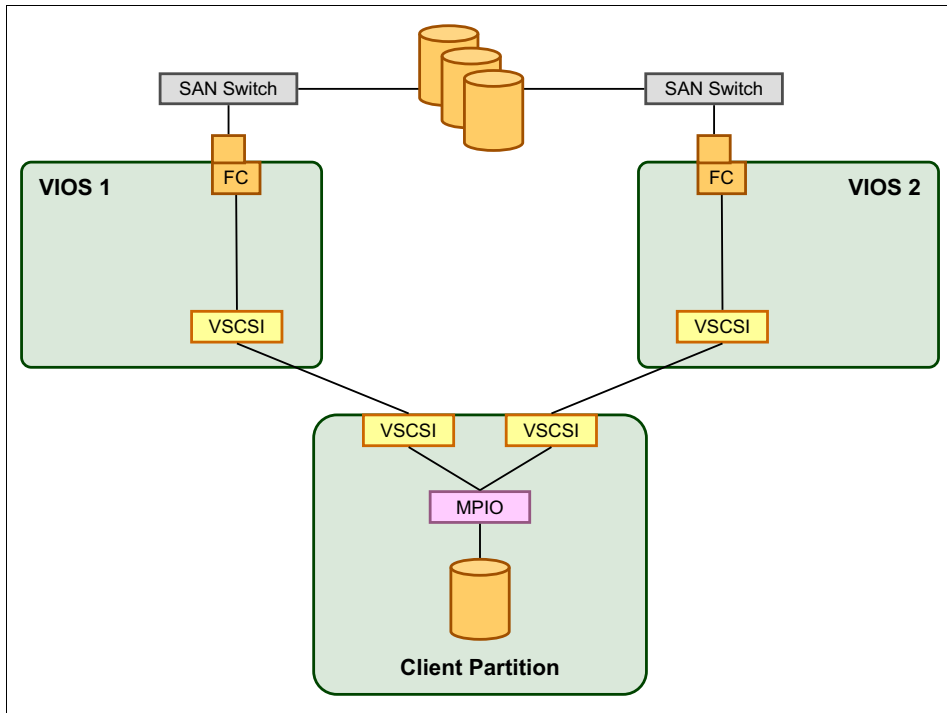

Figure 11-11 Virtual I/O client that is running MPIO
If you have an MPIO setup on your Virtual I/O Server client partitions similar to Figure 11-11 on page 385, run these commands before and after the first Virtual I/O Server update to verify the disk path status:
6. For an AIX MPIO environment, as shown in Figure 11-11 on page 385, run the **lspath** command on the virtual I/O client. Verify that all paths are enabled.